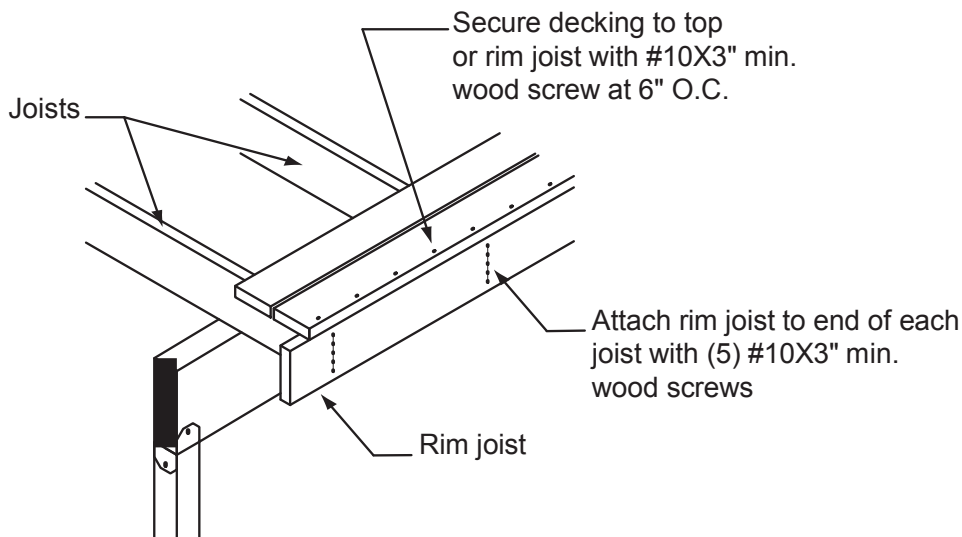
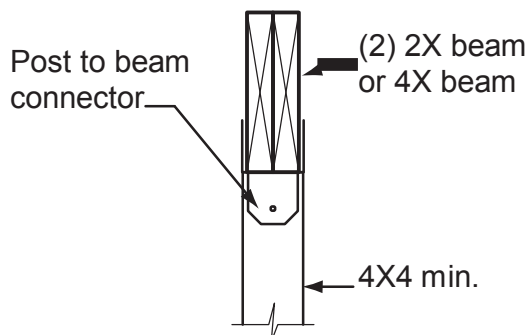
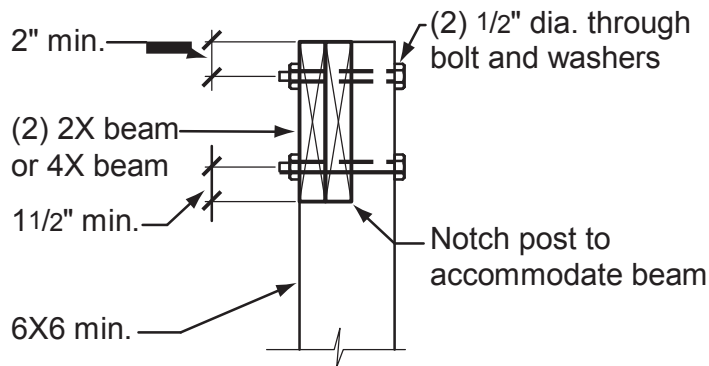

Fig. 18: Rim joist connection
Fig. 20 - Post-to-beam connection
Fig. 21 - Post-to-beam connection
Rim Joists: Attach a continuous rim joist to the ends of joists as shown in Figure 18. Note that the rim joists are required at both ends of joists in free-standing decks. Minimum rim joist dimensions shall be equal to the dimensions of the joist.
Post-To-Beam Connection: The post-to-beam connection shall be made with premanufactured mechanical connectors as shown in Figure 20. Post-to-beam connections may also be accomplished using a minimum 6x6 post notched for a 4x beam as shown in Figure 21. All thru-bolts shall have washers at the bolt head and nut.
3. See Figures 20, 21 for post to beam connection and figure 18 for rim joist connection